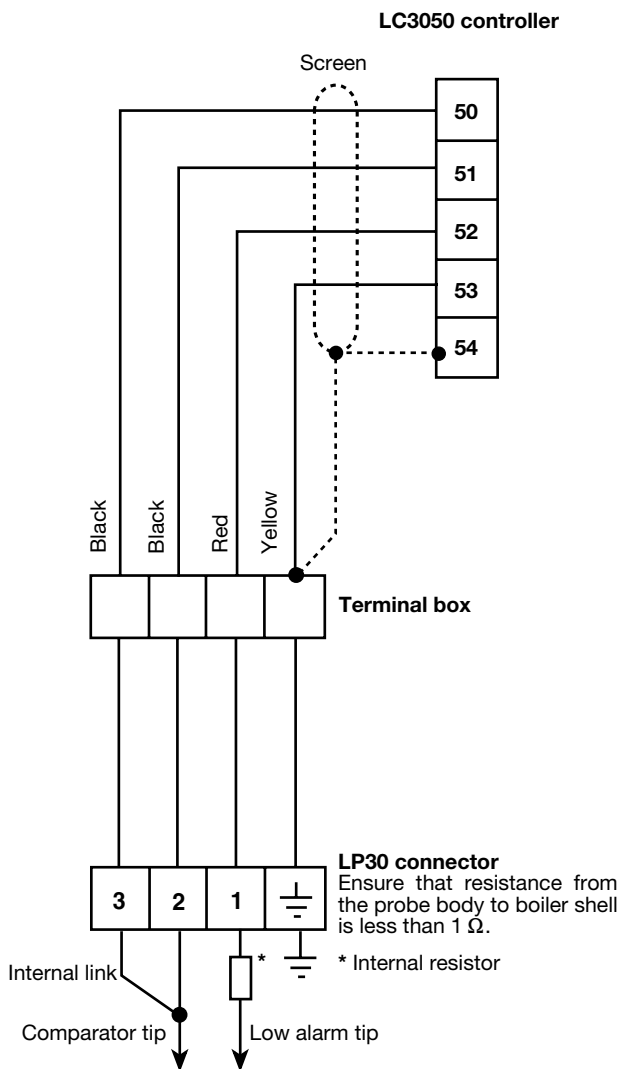

Fig. 11 UL/FM version
2. Remove probe (if installed) and fit a pair of checking wires to the end of the probe tip, 90° relative to each other and a maximum 10 mm ($\frac{3}{8}$ ") from the tip end - see Figures 11 and 12.